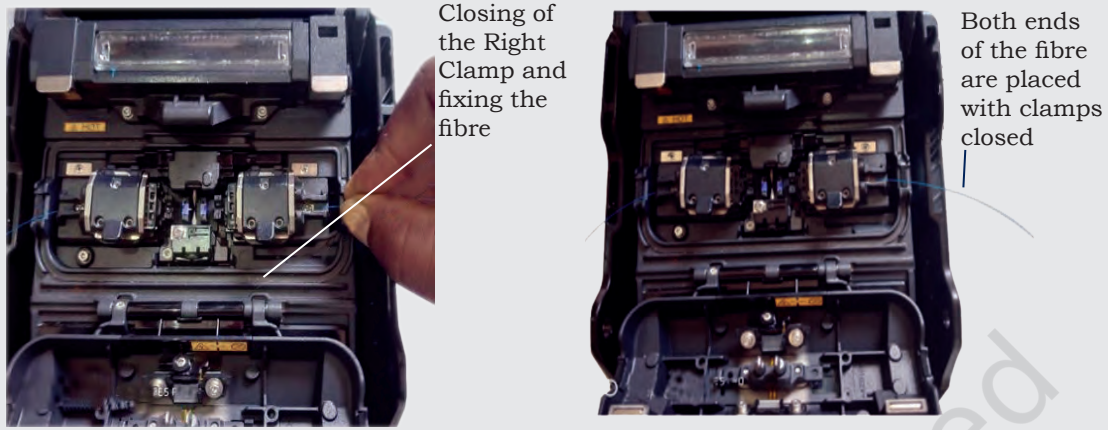

Fig. 5.31: Fixing the fibre inside the machine by closing right clamp
6. Prepare the second fibre to be joined then repeat the steps of placing the fibre inside the machine. Lift the right clamp and place the fibre end inside it and finally close the clamp as shown in the Fig. 5.31.